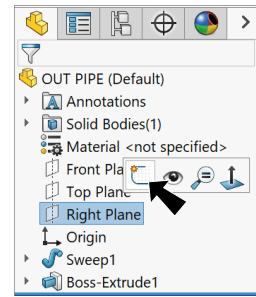

Fig. 22
Step 1. Click **Right Plane**  in the Feature Manager and click **Sketch**  on the context toolbar, **Fig. 22**.